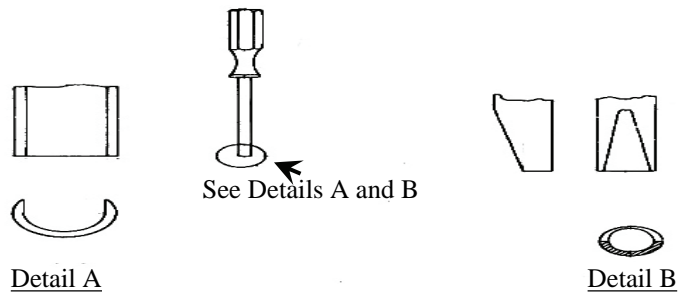

Figure 25. MIL-I-81969/18 Installation Tool
53. **CONTACT INSERTION.** Perform the following procedure to insert contact into connector. Refer to Figure 2 thru 10 for tooling information as they apply to each type of connector. Figure 25 shows a typical removal tool for this connector series.